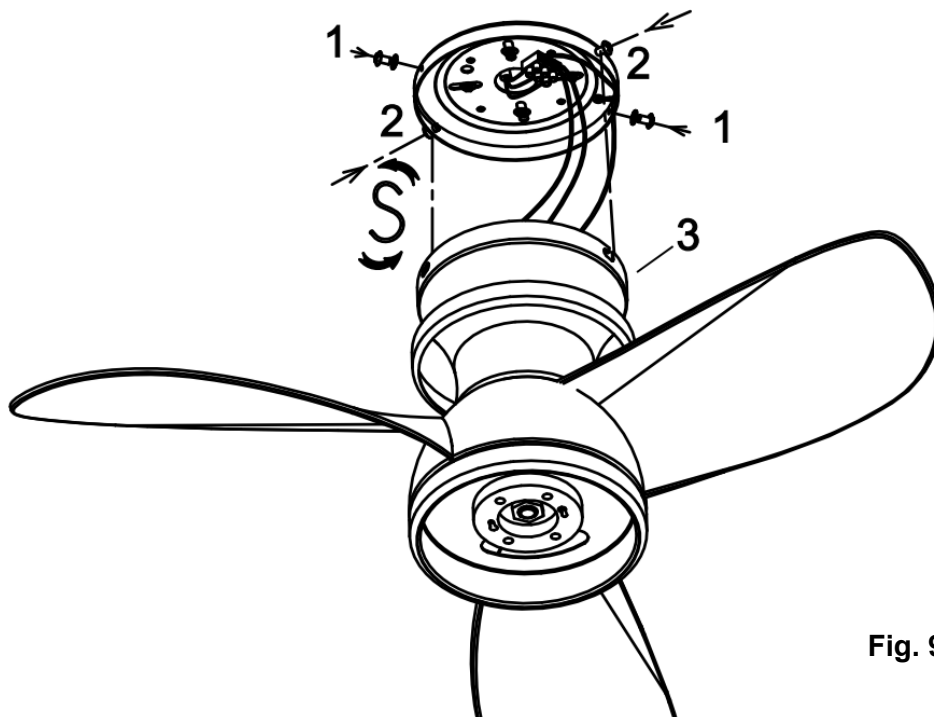

Fig. 9
- Lift the hanging canopy (3) of the fan assembly up to the mounting bracket and let the L-shape slot on the hanging canopy go through the two canopy screws (2). (Fig.9)
- Turn the hanging canopy until it locks in place at the end section of the L-shape slot, ensure the star washer are between the hanging canopy (3) and screw head. Secure it by tightening the two canopy screws (2). (Fig.9)
- Secure and tighten the canopy screws with star washer (1) to the mounting bracket. The hanging canopy (3) shall have 4 screws (1) & (2) in total. Avoid damaging the electrical wiring prepared previously when hanging the canopy. (Fig.9)